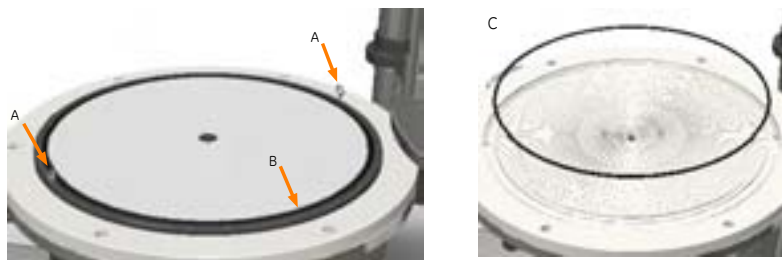

Figure 5.30: **A:** Lifting the bed support with the eye bolts, **B:** O-ring on the bed support, **C:** Removing the o-ring from the distributor plate
- 4 Unscrew the nuts underneath the bottom backing plate so that the bottom bed support can be lifted. Screw the 2 eye bolts (see Figure 5.30 A) delivered with the column into the holes and use them to lift the bed support.
- 5 Remove the large o-ring from the outer edge of the bed support. Clean the o-ring with 20% ethanol or replace it with a new o-ring if necessary (see Figure 5.30 B).
- 7 Remove the o-ring from the distributor plate. Clean the o-ring with 20% ethanol or replace it with a new o-ring if necessary (see Figure 5.30 C).